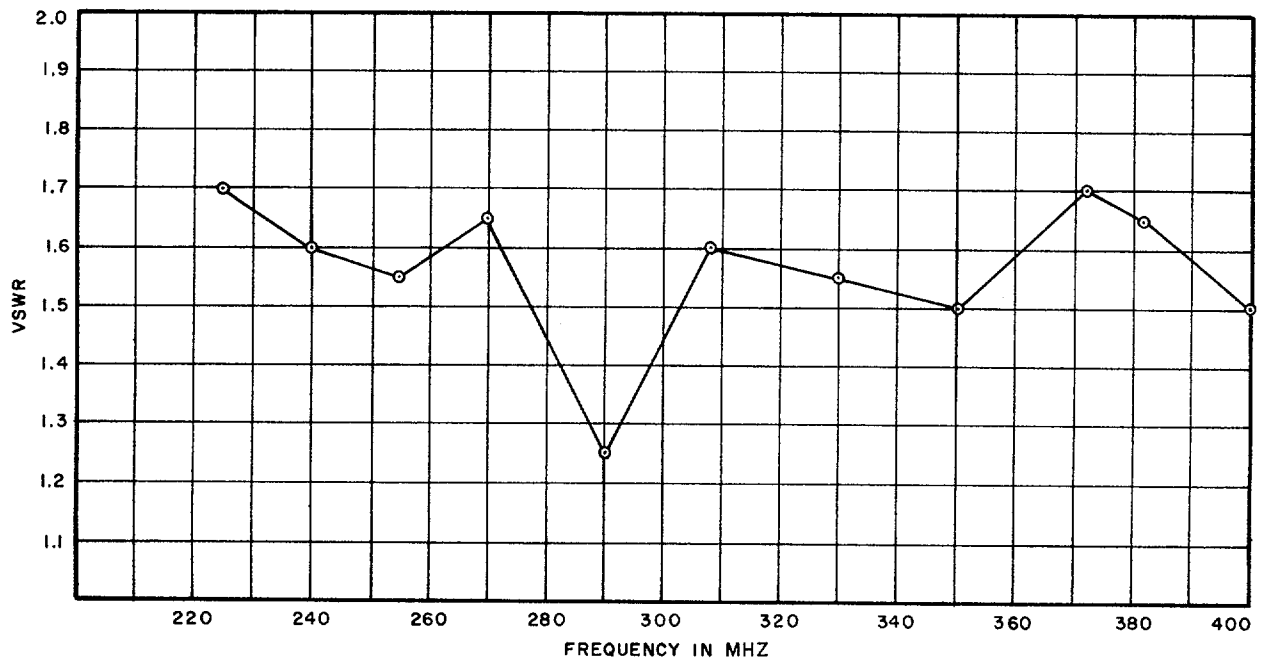

Figure 4-16. Antenna AS-1405/PRC-41, Voltage Standing Wave Ratio
(1) ANTENNA AS-1405/PRC-41. - Antenna AS-1405/PRC-41 is used with RT-695A/PRC-41 for reception and transmission of signals in the 225.0- to 399.9-MHz range without electrical or physical adjustments, other than extending the elements which are normally collapsed for storage. This antenna is a planar log periodic dipole array which provides unidirectional directivity characteristics. The nominal input impedance is 50 ohms. The azimuthal plane voltage patterns are shown in figure 4-15 for several frequencies in the range. The voltage standing-wave ratio for frequencies between 220 and 400 MHz is shown in figure 4-16. AS-1405/PRC-41 is operated on Mast AB-777/PRC-41.